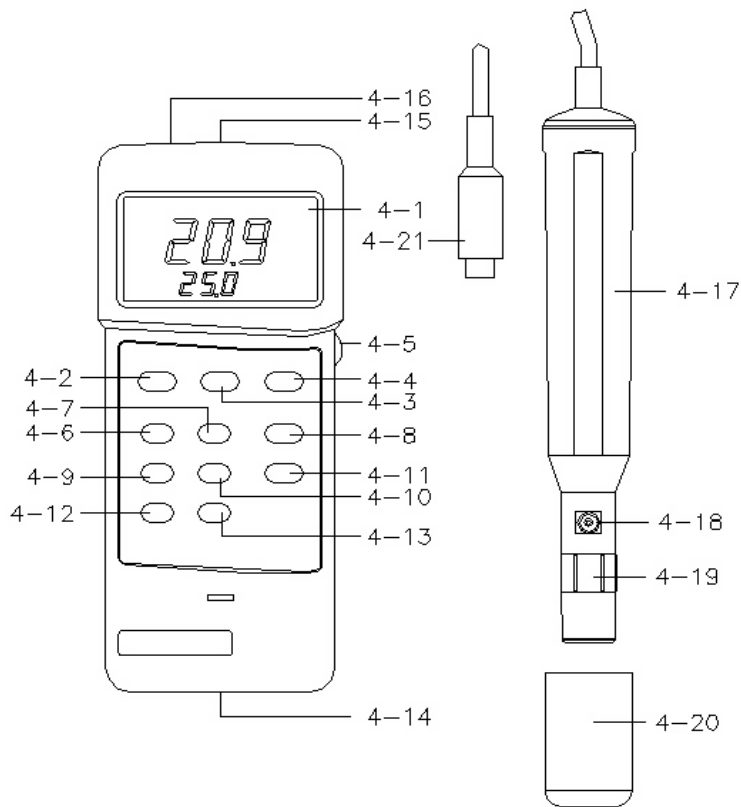

Fig. 1
- 1) Disconnect the " OXYGEN PROBE plug " (4-21, Fig. 1) from the " Probe input socket " (4-15, Fig. 1).
- 2) Power on the instrument by pushing the " Power Off/On button " (4-2, Fig. 1).
- 3) Slide the " O2/DO selector " (4-11, Fig. 1) to the " O2 " position.
Push the " Zero button " (4-9, Fig. 1) and the display will show zero value.
- 4) Connect the " Oxygen probe plug " (4-21, Fig. 1) with the " Probe input socket " (4-15, Fig. 1). Wait for approx. 5 minutes at least until the display reading values become stable & no fluctuation. Push the " O2 Cal. button " (4-12, Fig. 1) and the display will show the values exactly same as 20.9 or 20.8. (As the oxygen in air is 20.9 % typically, so use the environment air O2 value for quick & precise calibration).
- 2) Slide the " O2/DO selector " (4-11, Fig. 1) to the " DO " position.
- a. Push the " % Salt button " (4-10, Fig. 1) first, and the display will show. :
- b. Push the " Factor Adj. button " (4-8, Fig. 1) once will add " 1 % " to the original salt % value until the adjusting reading reach the desired salt values. Then push the " % Salt button " (4-10, Fig. 1) again to finish the adjusting procedures. At this moment the new % salt values will be executed.
- a. Push the " MT (Height) button " (5-13, Fig. 1) first, then the display will show
- b. Push the " Factor Adj. button " (4-8, Fig. 1) once will add " 100 meters " to the original height values until the adjusting reading reach the desired height values (meters). Then push the " MT (Height) button " (4-13, Fig. 1) again to finish the adjusting procedures. At this moment the new height values (display unit is the " meters ") will be executed.
2) Slide the " O₂/DO selector " (4-11, Fig. 1) to the " O₂ " position.
* Push the " °C/°F button " (4-4, Fig. 1) once to select measuring unit in °C or °F.
During the measurement, Push the " Data Hold button " (4-3, Fig. 1) will hold the display values & LCD will show the " D.H " marker.
* The DATA RECORD function displays the maximum, minimum and average readings. To start the DATA RECORD function, press the " Memory Record button " (4-6, Fig. 1) once. " REC " symbol will appear on the LCD display.
- (a) Push the " Memory CALL button " (4-7, Fig. 1) once, the " Max " symbol along with the maximum value will appear on the display.
To de-activate this feature, select the memory record function during measurement by pressing the " RECORD " button (4-6, Fig. 1).
This is achieved by controlling the " LCD Contrast Adjust " pot (4-5, Fig. 1).
The instrument features an RS232 output via 3.5 mm Terminal (4-16, Fig. 1). The connector output is a 16 digit data stream which can be utilized to the user's specific application.